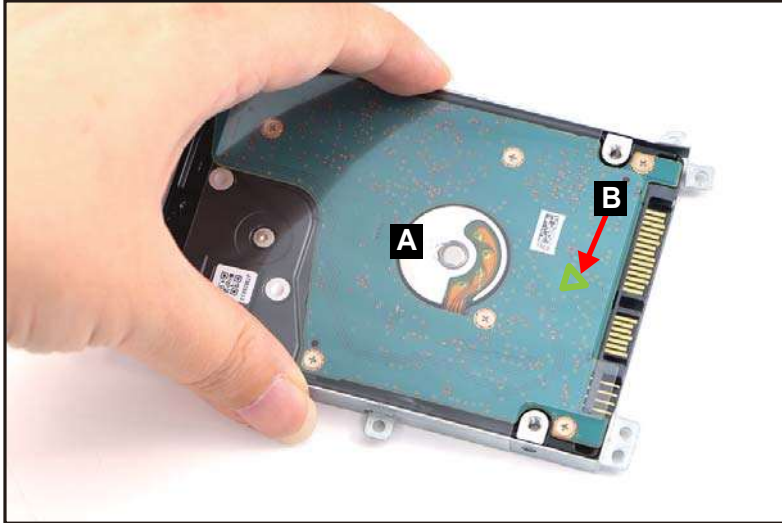

Figure 3-98. Replacing the HDD Module
1. Install the HDD module (A) into its bracket (Figure 3-98).
When installing the HDD module, make sure the marked arrow (B) is facing the correct direction shown in Figure 3-98.